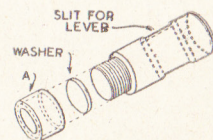

Fig. 3 Washer details
It will be seen from the diagram that the 'shell', containing the cartridge, is screwed to the part of the ball-cock, made up of the stop-cock and the face. Unscrew the 'shell', and take out the cartridge. Fig. 3 shows how the cartridge is constructed. Unscrew the part of the cartridge, marked (A) in the diagram, and take out the old washer. A new washer must now be made.